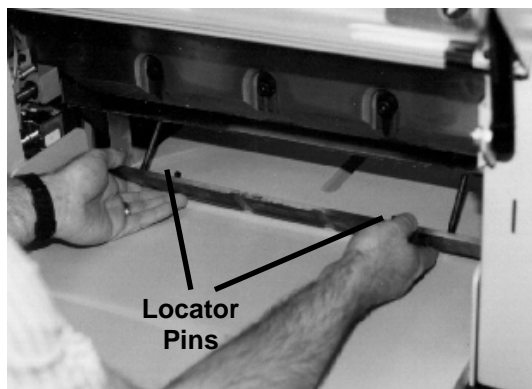

Figure 13
3. Open the front guard (if equipped) and slide the false clamp plate under the knife and clamp (Figure 13) and slide the plate up into position with the locator pins toward the front of the machine. The locator pins insert into holes in the bottom front of the clamp.